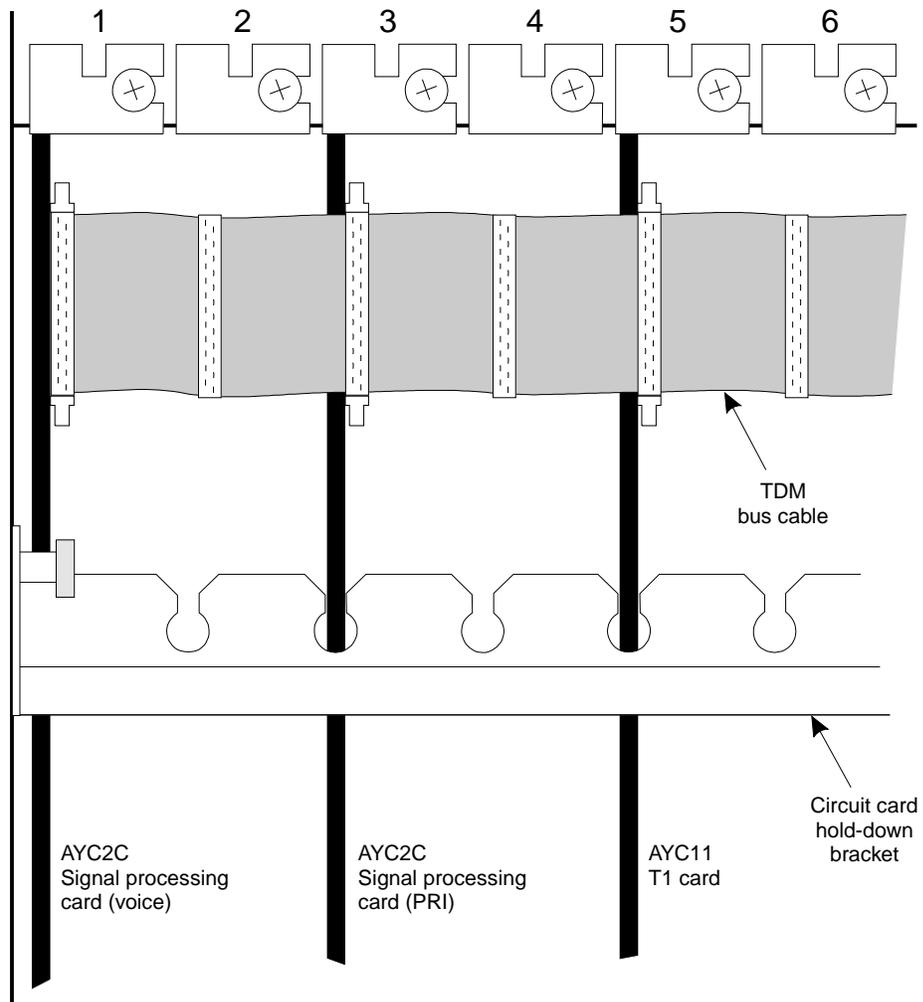

Figure 8-25. TDM Bus Cable on a MAP/100C
4. With the stripe on the ribbon cable facing down, plug the connectors on the TDM bus cable into the connector on each card from slot 1 to slot 15. The connectors on the cable and the cards are keyed. See Figure 8-25 for an example of an installed TDM bus cable.